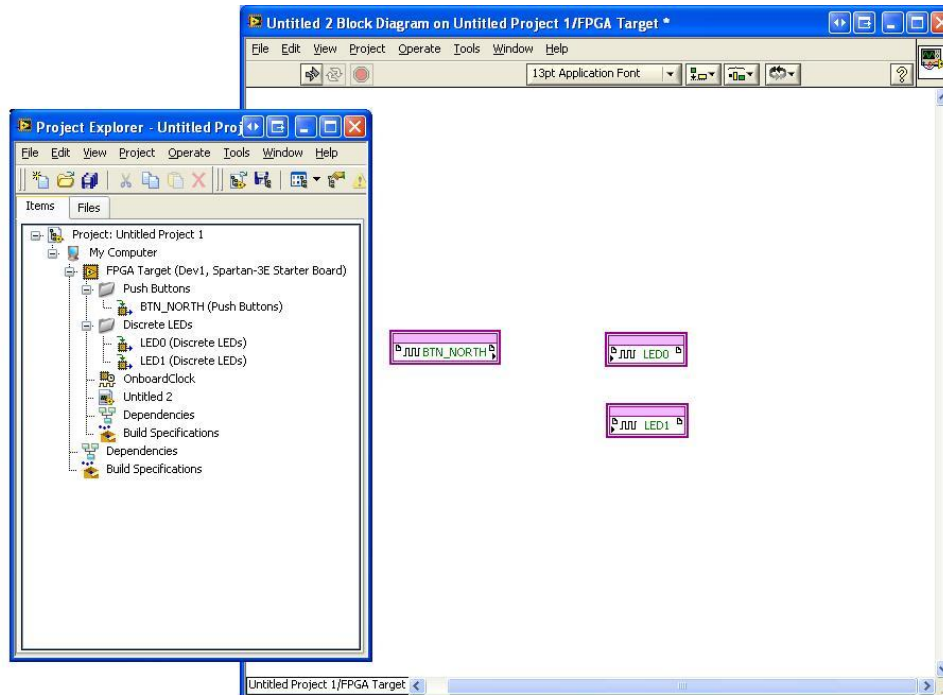

Figure 13: Adding I/O to Block Diagram
2. While the block diagram of your VI is open, drag and drop **BTN_NORTH** from the I/O folder in the **Project Explorer** window to the block diagram. Drag and drop the remaining two LEDs (**LED0** and **LED1**) onto the block diagram. Your FPGA VI should look similar to Figure 13.